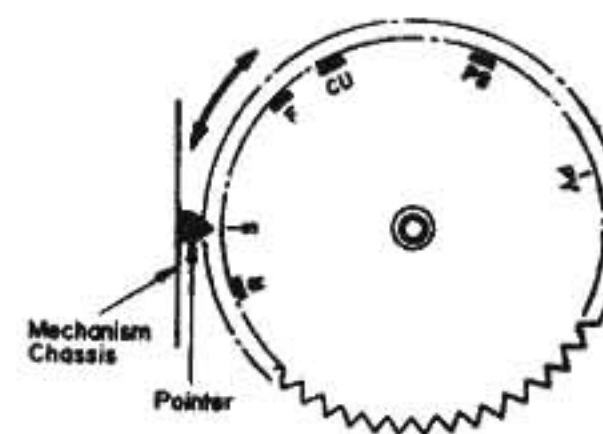

Fig. 2.1
(1) Offset Adjustment of Control Motor Driver
- Refer to Fig. 2.1.